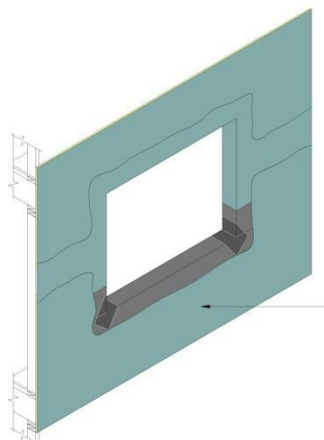

Fig. 12
- 4) Install the specified component (i.e. window, etc.) and associated flashings per manufacturer's directions and contract documents. Then apply Backstop NTX – Texture, Smooth to the remainder of the wall surface as described in Section VI and lap over the previously installed material around openings – Figure 12.